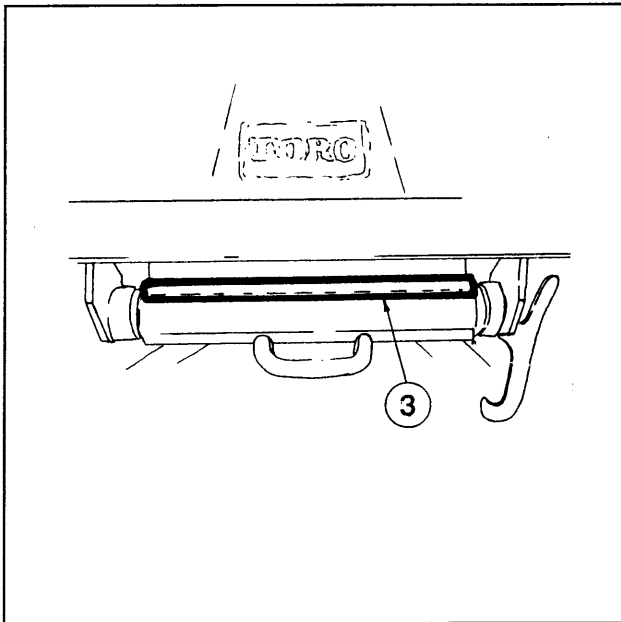

Figure 5
7. Locate the bottom lip at the front of the cab. Take the 90 degree O-rubber (3) and slide it onto the lip from side to side, with the bulb towards the rear. (see Figure 5)